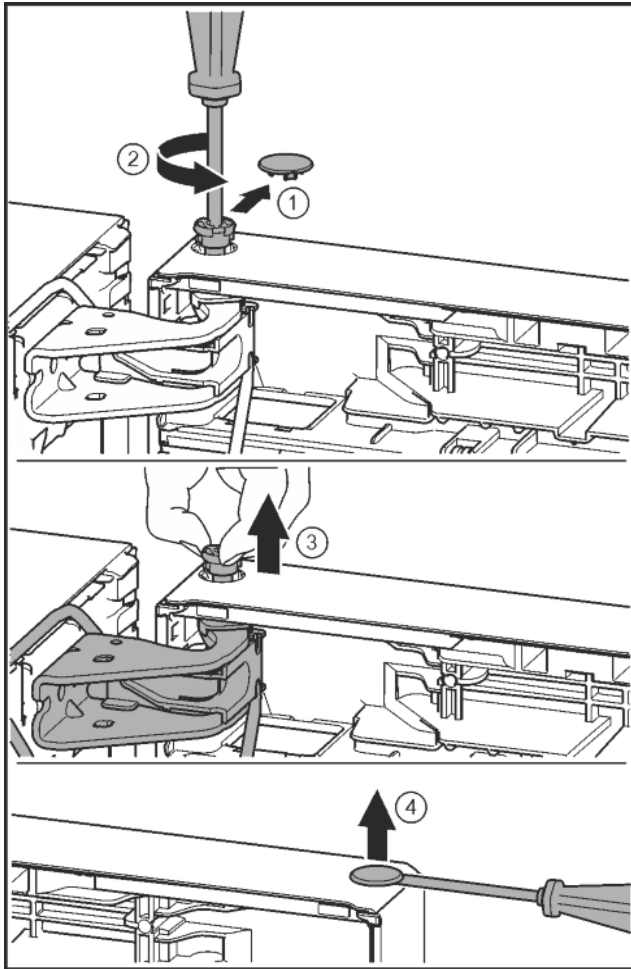

Fig. 22
- Carefully remove the safety cover. Fig. 22 (1)
- Undo the bolt a little with a T15 screwdriver. Fig. 22 (2)
- Hold the door and remove pins with your fingers. Fig. 22 (3)
- Carefully lift the plugs out of the door bearing bush with a slotted screwdriver and remove. Fig. 22 (4)